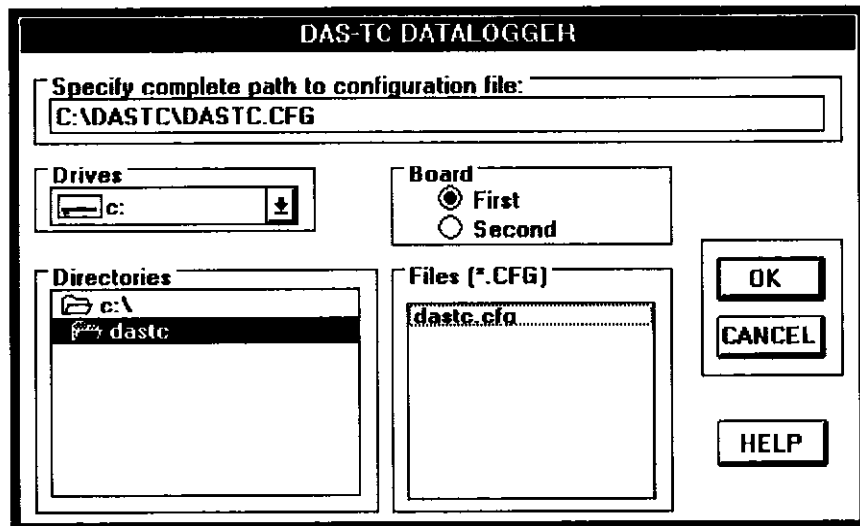

Figure 4-1. Configuration File Path-specification Screen
2. When the Help screen appears, press [Enter] to transfer to the path-specification screen, which is similar to the diagram in Figure 4-1.
4. When the Help screen appears, press [Enter] to transfer to the path-specification screen, shown in Figure 4-1.
In the path-specification box of the screen in Figure 4-1, the default configuration file and its path for the DOS program are *C:\DASTC\DASTC.CFG*. The default configuration file and its path for the Windows program are *C:\ASOTC\DASTC.CFG*. The default board is *First*.